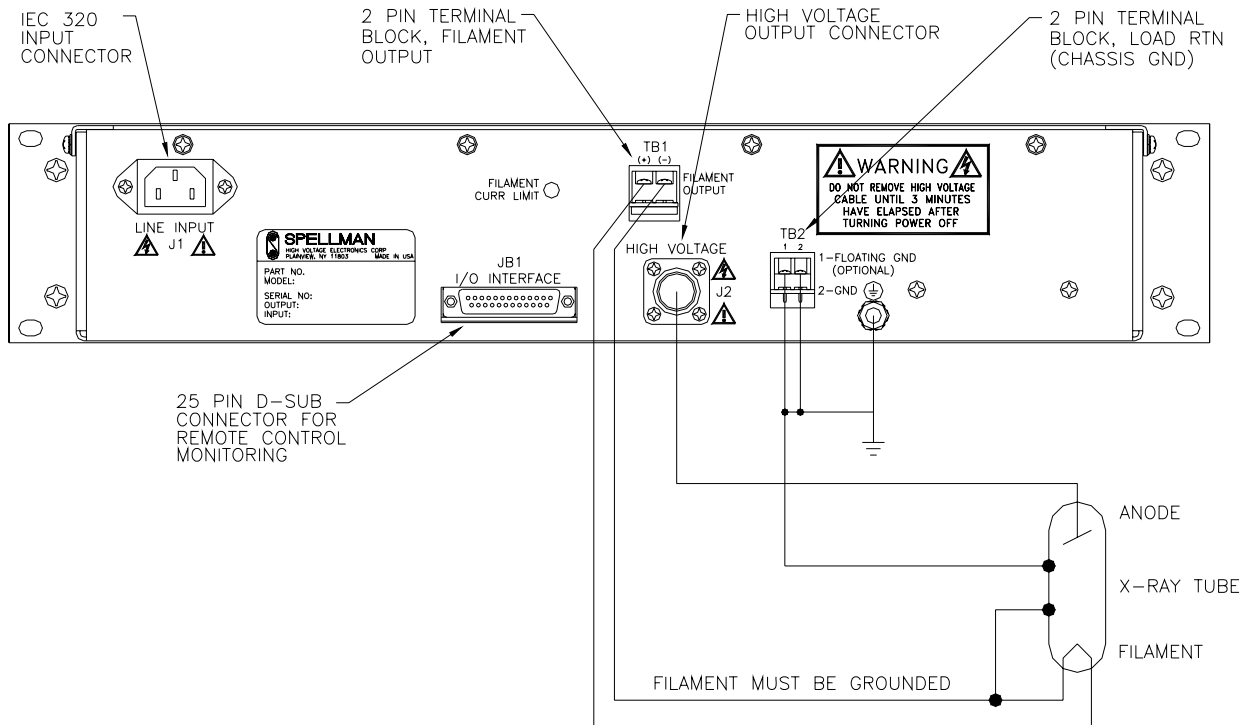

Figure 3.1 Typical Operating Setup XLG
A) Insure that the Circuit Breaker is in the OFF position (0).
C) **PROPER GROUNDING TECHNIQUE:** The chassis of high voltage power supplies must be grounded, preferably to a water system ground using copper pipe or other earth ground using the connection terminal at the rear of the unit.. See Figure 3.1, 3.2 for a typical operating setup.